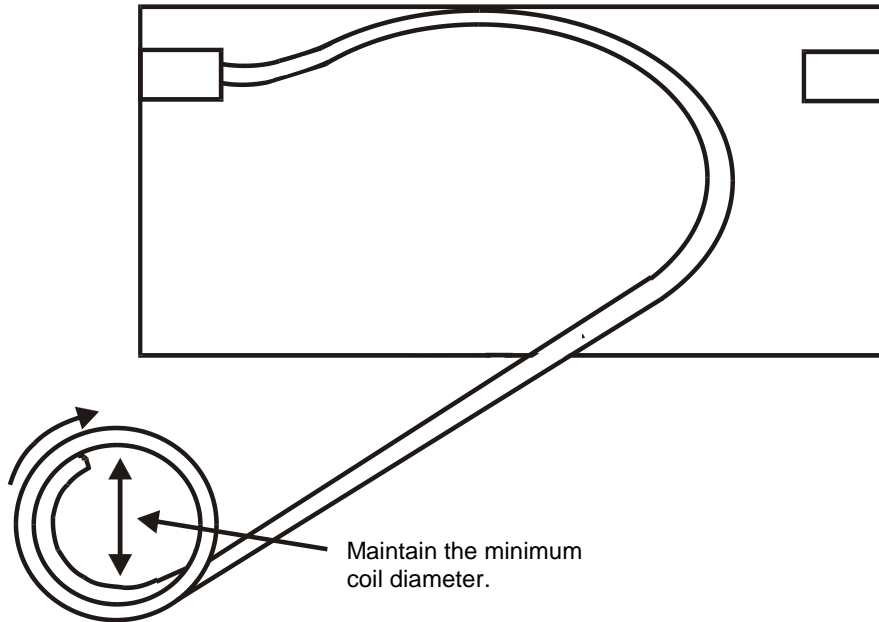

Figure 4 – Rolling the cable into a coil (handhole application only).
6.3 Cable Storage at Splice Locations: For handhole applications, un-spliced cable ends should be rolled into a storage coil as shown in Figures 4 and/or 5. Splice closures and mid-span splice closures can be coiled using either the Garden Hose Method (see Section 5.4) or as shown in Figure 5. In either case, these coiling methods will produce a twist-free storage coil. In all cases, the storage coil must meet the minimum storage coil diameter specified in Table 1.